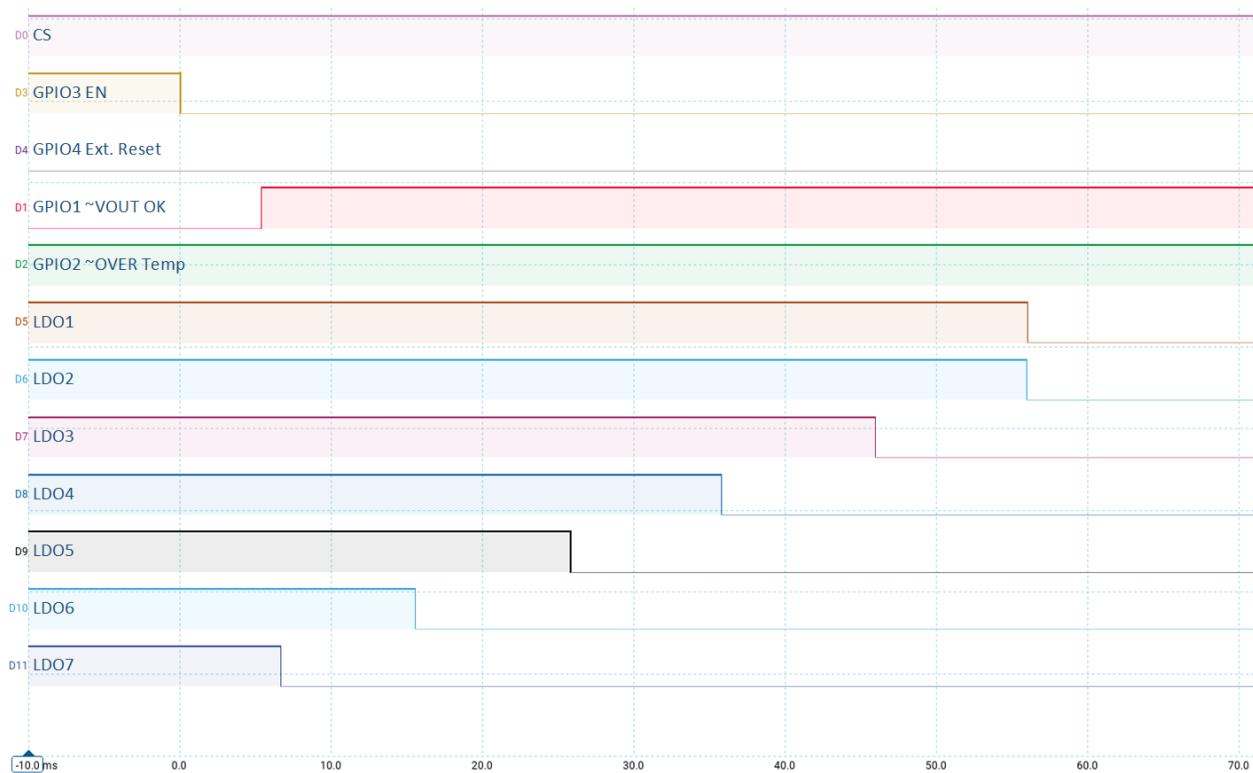

Figure 8: Power DOWN Sequence via GPIO3: EN
Figure 8 shows the operation of the Power Sequencer block as a part the SLG51000. Once GPIO3 (EN) is toggled from high-to-low, the LDOs begin to turn OFF one by one. After the first LDO is turned OFF, GPIO1 (VOUT OK) goes high.